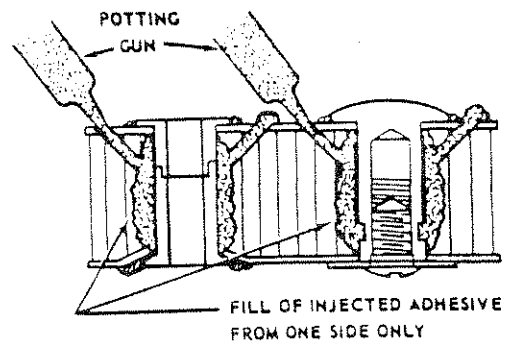

FIG. 5
- 5.6 Inject potting adhesive into only one of the drilled injection holes until a steady flow of adhesive is flowing from the other hole. See Figure 5.